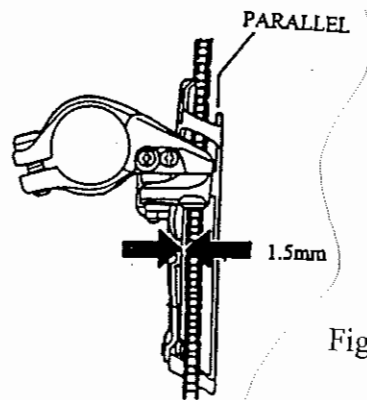

Fig. 2
- Inside chain plate should clear inside changer case by 1.5mm (see fig. 2).